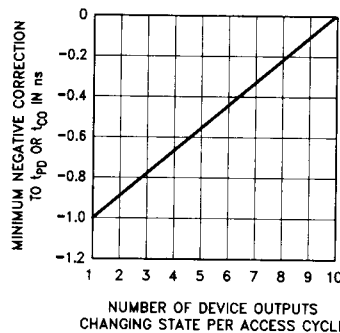

Figure 3
13. This specification is guaranteed for all device outputs changing state in a given access cycle. See Figure 3 for the minimum guaranteed negative correction which may be subtracted from t_{PD} for cases in which fewer outputs are changing state per access cycle.
14. This specification is guaranteed for all device outputs changing state in a given access cycle. See Figure 3 for the minimum guaranteed negative correction which may be subtracted from t_{CO} for cases in which fewer outputs are changing state per access cycle.